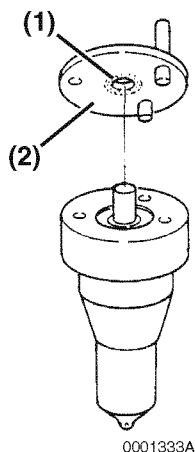

Figure 7-58
6. Inspect the sealing surfaces (**Figure 7-58, (2)**) between the valve stop spacer and nozzle body for nicks or scratches. Check the contact area between the valve stop spacer and the nozzle valve (**Figure 7-58, (1)**) for scoring, or pitting. Use a magnifier glass to inspect the area.